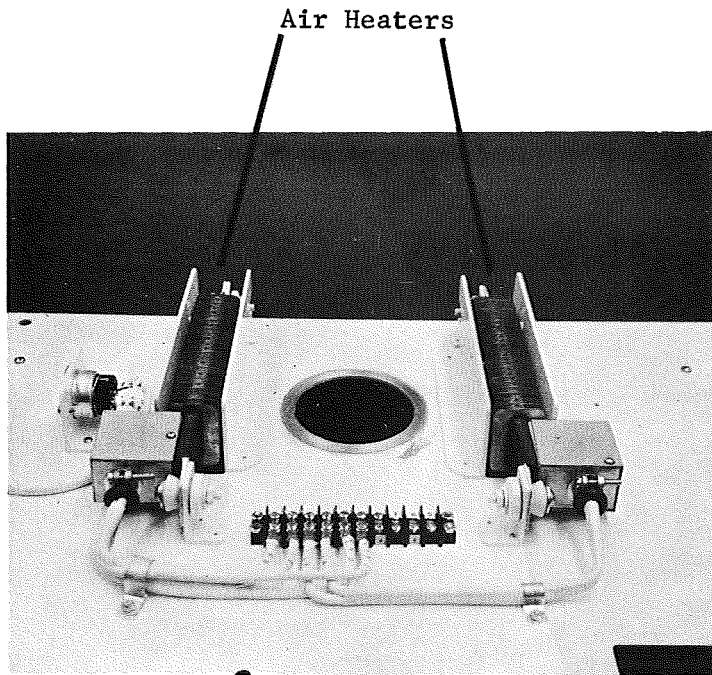

FIGURE 15. AIR HEATER ASSEMBLY
4.7 Air Heaters (See Figure 15)